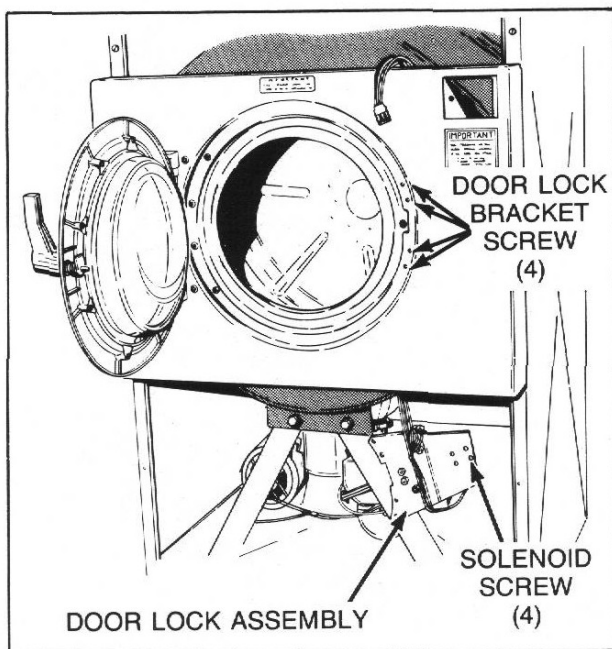

Figure 15
- d. While holding wire harness, open loading door and remove the four screws holding door lock assembly bracket to front panel, *Figure 15*.
- e. Lower complete door lock assembly (by use of wire harness) and remove assembly through air intake grille opening, *Figure 15*.
- g. Remove four screws holding solenoid to bracket, *Figure 15*.